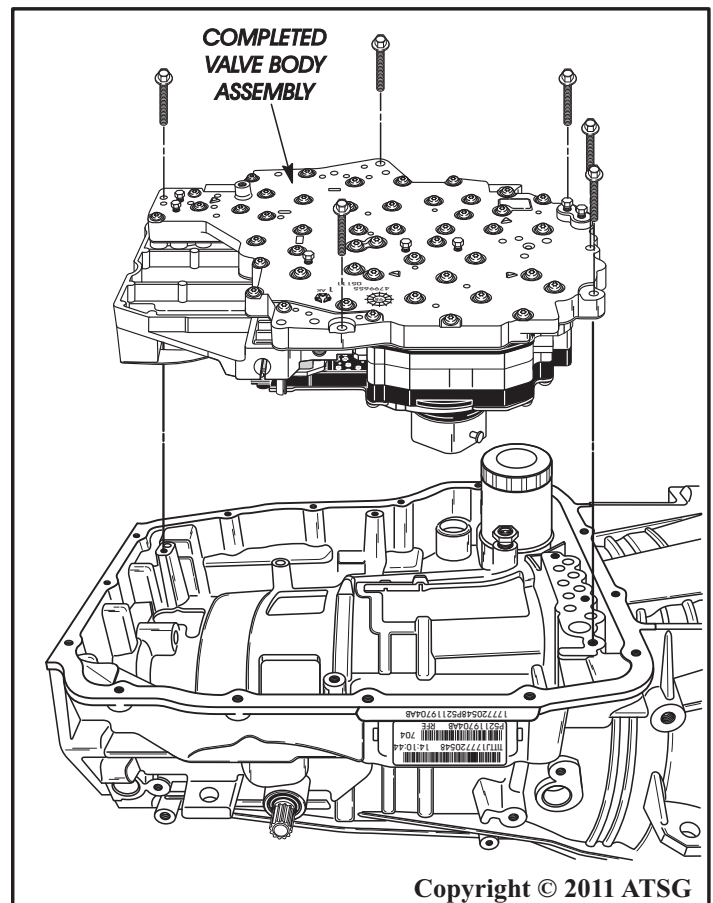

Figure 160
41. Install the completed valve body assembly, as shown in Figure 160.